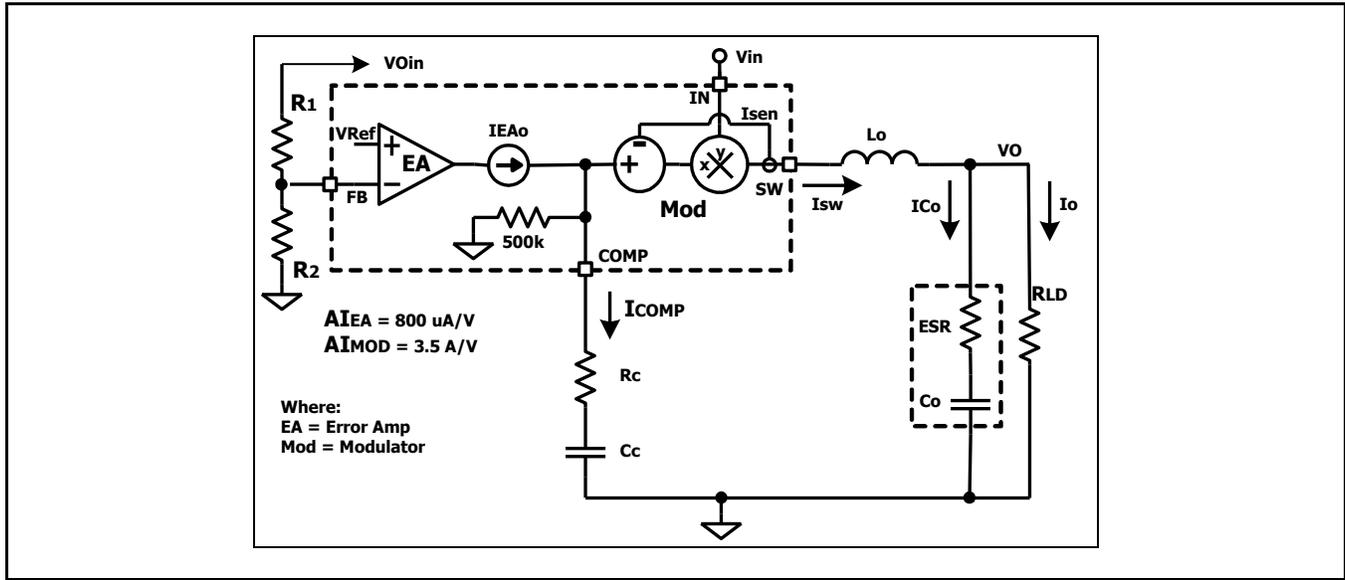

Fig. A1: Circuit Diagram
Figure A1 shows a diagram of the XRP7664 internal gain blocks. The total loop includes the feedback divider, Error Amp (EA), Modular (MOD), and Output filter. Since the error amp is a transconductance amplifier its output voltage will be a function of IEAo and the impedance from its output to ground. Please note that this includes its internal 500kΩ impedance.